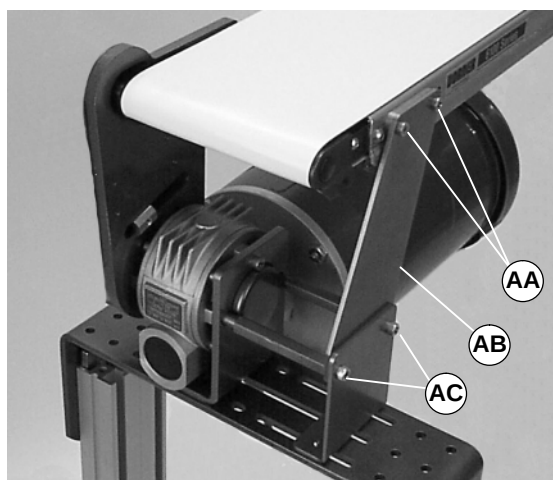

Figure 23
NOTE: For conveyor with a Heavy Load Bottom or Top Mount Package, bracket (AB of Figure 23) must be removed.
6. For a conveyor with a Heavy Load Bottom or Top Mounting package, re-install bracket (AB of Figure 23).
NOTE: With a Heavy Load Mount Package, two (2) screws (AA of Figure 23) were removed in step 1.